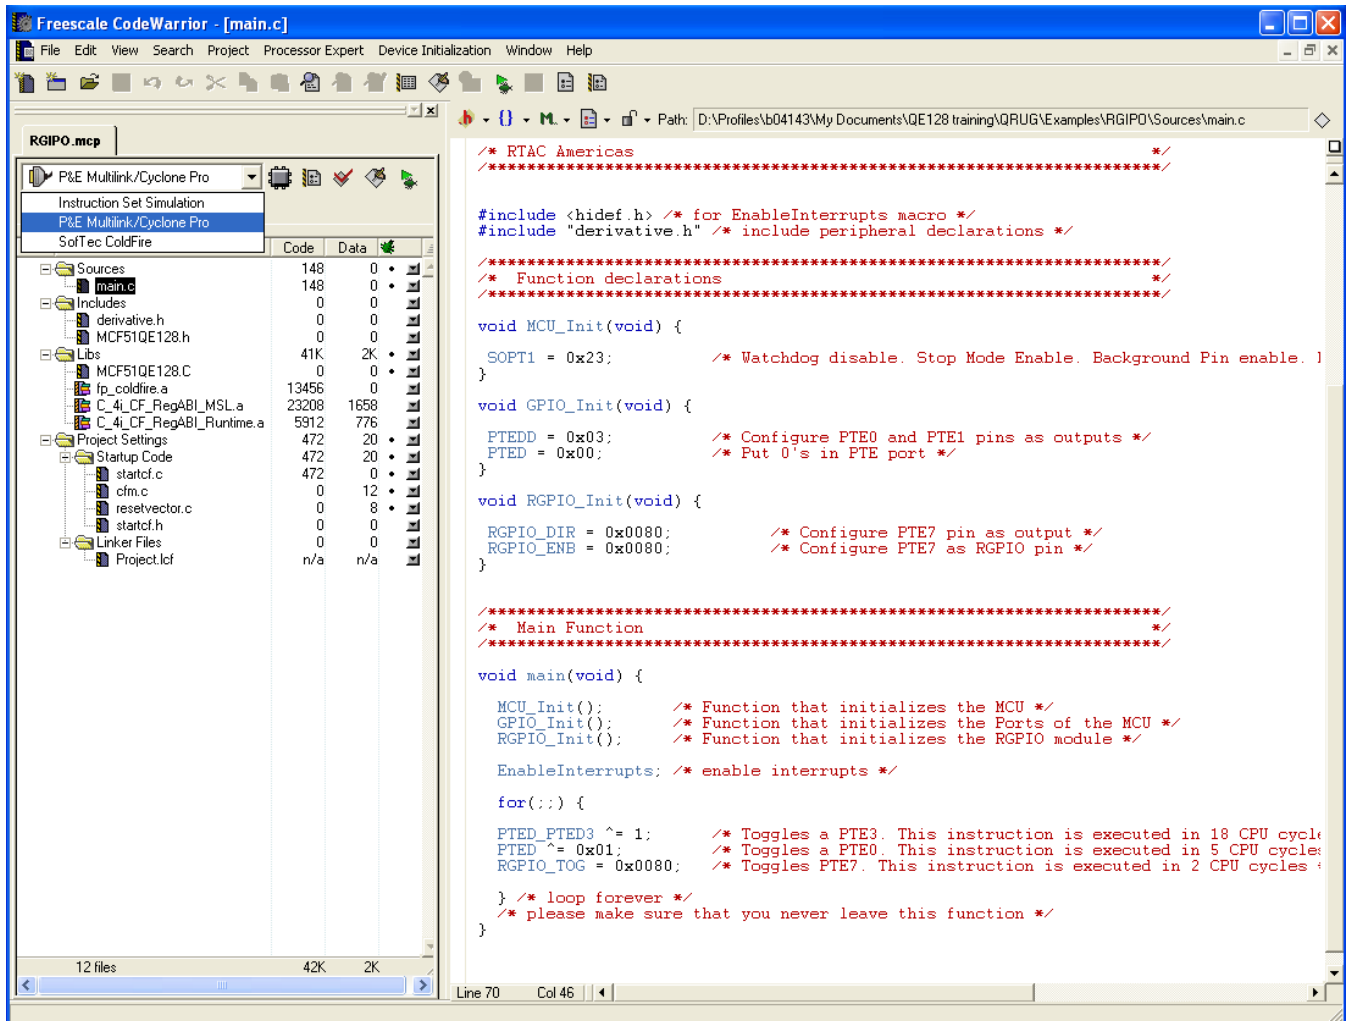

Figure 3-2. Select the Correct Option in the Combo Box
6. On the left side of the window is a combo box. Select the P&E Multilink/Cyclone Pro option as shown in Figure 3-2. The BDM multilink hardware for programming the MCU is needed when an EVB is used. This device is developed by PEmicro. If a demo board is used do not buy a multilink.